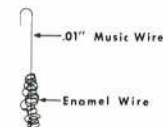

FIG. 1
Build The Weights: Fig. 1 illustrates a typical weight. It has a center shaft of .01" dia. music wire with enamel covered electrical wire wound on it. This chart shows the weight of various lengths of enamel covered wire:
**Clever Switch Actuation Idea From Clyde Shelton:** Most of us who mount switches internally use the old idea of drilling a hole through the "tang" of the switch, i.e., sliding part. This is fine so long as no crash occurs. Since Clyde crashes once every few years, he needed something better! Figure 1 shows the idea. Nylon pieces are used for guides to hold a piece of 1/16 wire just on top of the tang. Two Midwest No. 10-20 nylon retainers pressed onto the 1/16 wire actuate the switch. Another on the outside of the fuselage serves as a finger hold. In a crash, pieces are free to fly in all directions without tearing the switch to pieces.